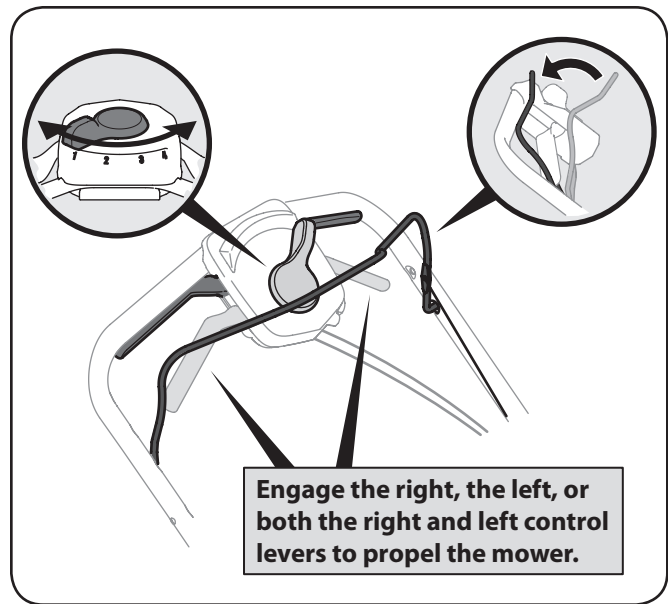

Figure 5-3
1. Once the engine is running and while continuing to hold the blade control down, squeeze either (or both) drive controls against the upper handle to propel mower. See Fig. 5-3.